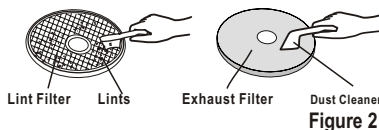

Figure 2
3. To install the hanging hook to the dryer, remove screws 1, 2, 3 & 4 as indicated in Fig. 2.
5. Remove lower side screws and install the spacers provided as per Fig. 2.
Do not damage the filters (as shown in figure 2)